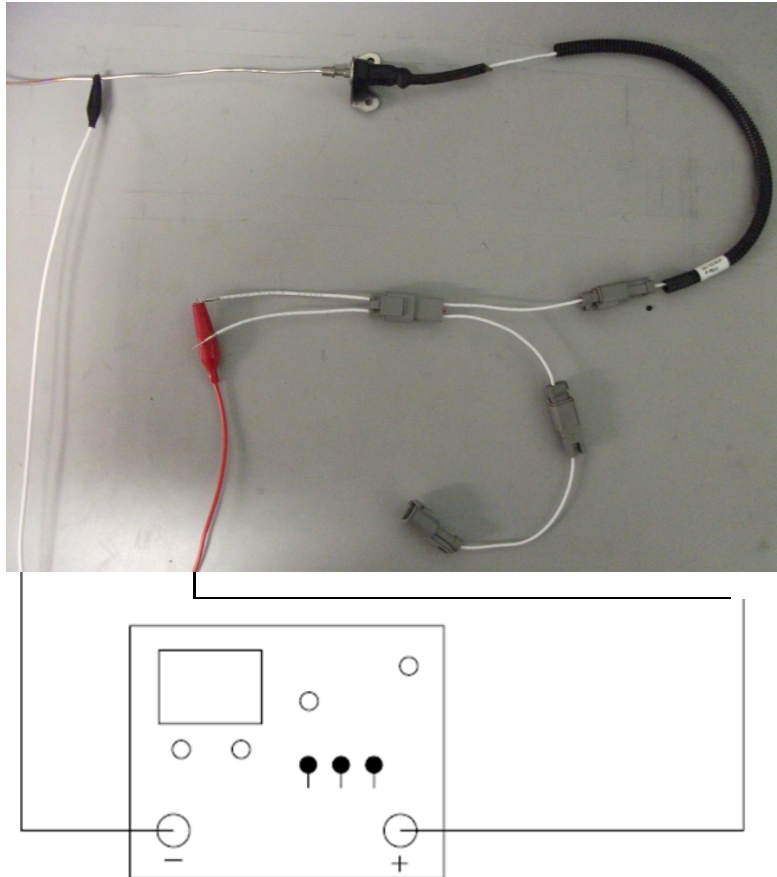

Figure 12 – Megohmmeter Connection
- a. Connect the negative megohmmeter lead to the sensing element shell. See Figure 12.